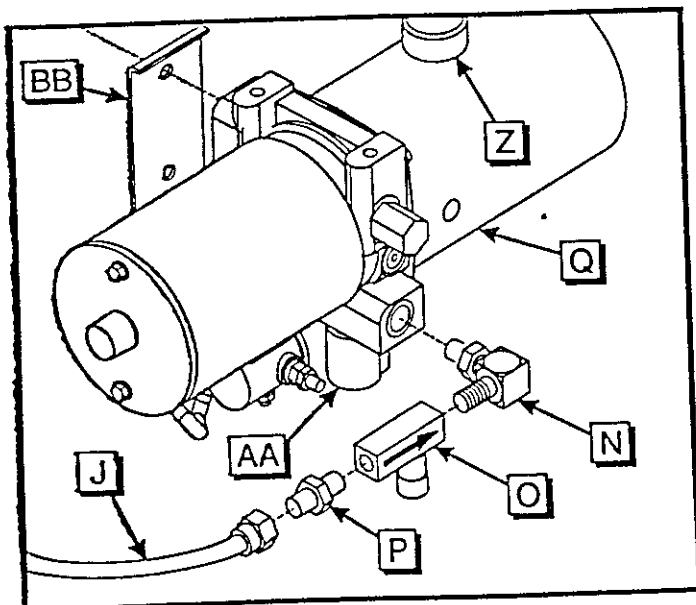
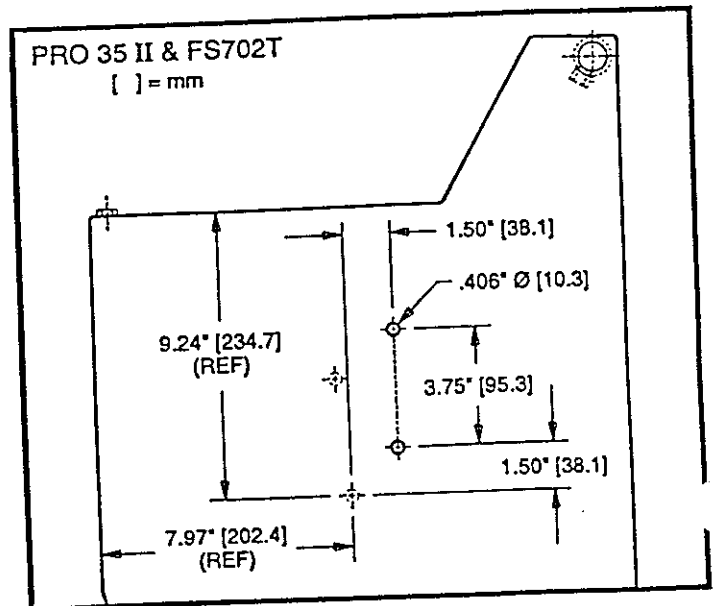

fig. 4-1
fig. 5-1
(see figs. 4-1, 1-2, 2-2, 3-2)
- a. Inspect to make sure the Switch (AA) on the Hydraulic Lift Pump (Q) faces in the direction shown in (fig.4-1). If it does not; loosen the nut at the bottom of the switch, rotate it to the desired position, and re-tighten the nut.
- b. Install the 90 Degree Elbow Fitting (N) , Flow Control Valve (O), and Male Fitting (P) on the new Hydraulic Lift Pump (Q), position these items as shown on (fig.4-1).
- c. Install the Reinforcement Plate (BB) (see fig.4-1, & 1-2) and the new Hydraulic Lift Pump (Q). Install the new Hydraulic Lift Pump (Q) by mounting it:
- i. In the same holes as the old Hydraulic Lift Pump (E) for Models PRO65II, PRO40, & FS902T.
- ii. In new holes drilled in the cowl (fig.5-1) for Models PRO35II & FS702T.